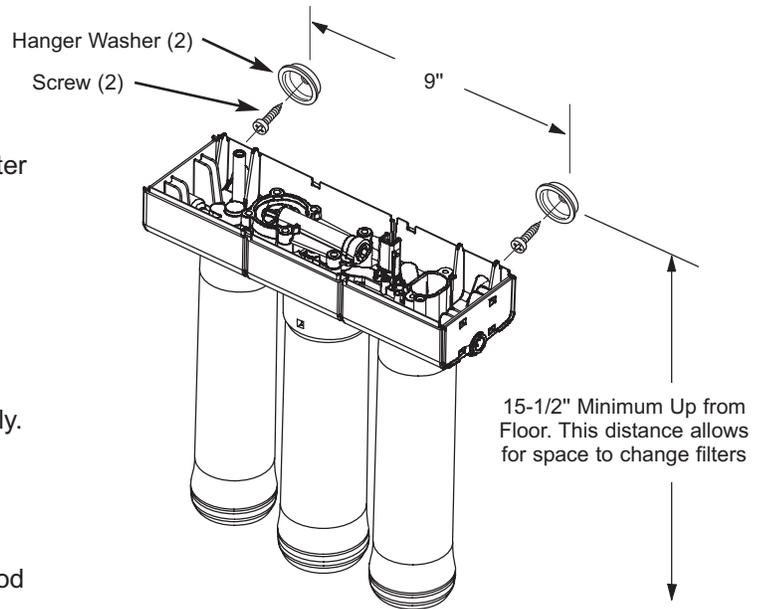

FIG. 11
See Fig 11. The hanger washers allow you to lift the filter assembly from the washers without any hardware removal. When planning your installation, you need to leave room for changing filters.
2. Locate mounting slots on back inside of the assembly. See Fig 11.
3. Hold the assembly up to the wall surface and mark locations for the hanger washers. See Fig 11. This allows room to change filters.